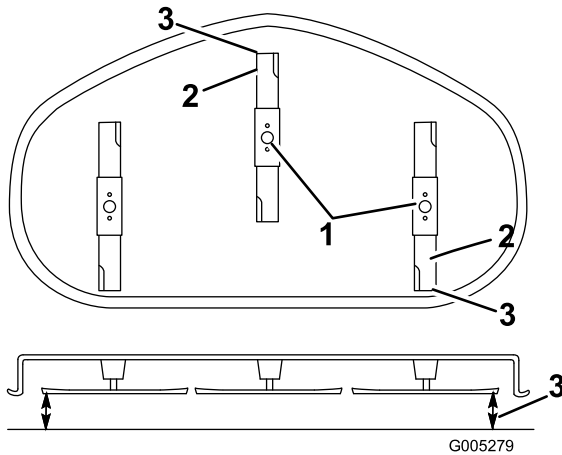

Figure 41
5. Set the height-of-cut at position **3** [3 inch (76 mm)] and carefully rotate the blades so they are facing front to rear (Figure 41).
6. Measure from the tip of the front blade to the flat surface and the tip of the rear blade to the flat surface (Figure 41). If the front blade tip is not 1/16-5/16 inch (1.6-7.9 mm) lower than the rear blade tip, adjust the front locknut.
is 1/16-5/16 inch (1.6-7.9 mm) lower than the rear blade tip (Figure 41).